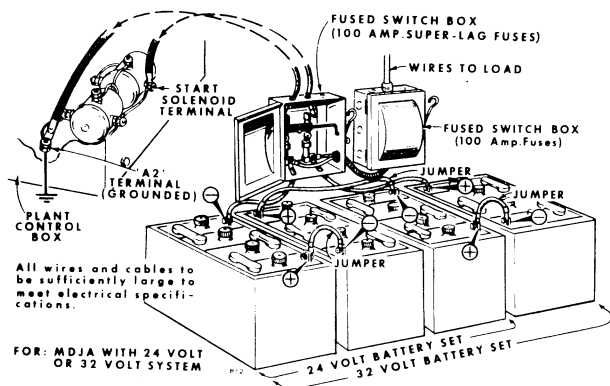

FIGURE 10. 24-32 VOLT BATTERY CONNECTION
**24 Volt or 32 Volt System:** Refer to the wiring diagram and Figure 10. The dual purpose sets and battery charging sets have a *GROUND*ED system. Battery ground is negative, reversible in the field. Battery polarity must agree with polarity of other electrical equipment aboard a vessel. If the positive lead is grounded, reverse the connections to the charge ammeter or remark the direction of charge.
Make connections from the main line switch to the fused battery switch. Connect leads to the terminals on the battery side of both switches. Observe the same polarity used in connecting the battery (Figure 10).